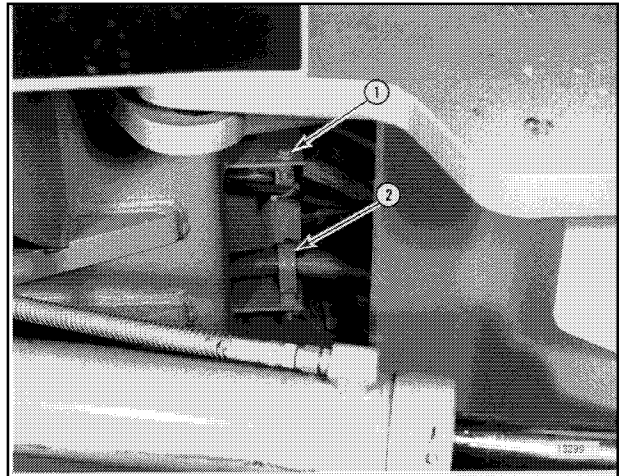

Figure 13
19. Remove four bolts, lock washers, plain washers (1, Figure 13) and hose clamps (2).